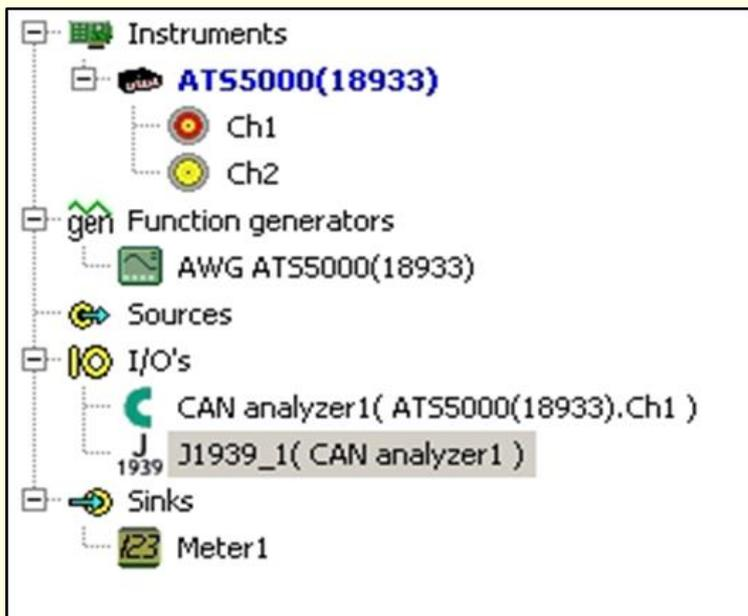

Figure 3: ATS tool ribbon J1939 analyser.
Step 3: Create a J1939 block and drag the CAN analyzer into this block as shown in Figure 3.